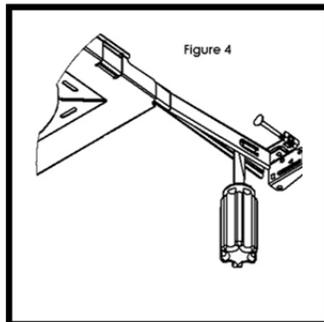

Figure 4
*Note: For tight spacing, bars can be shortened by braking off bar segments (Figure 4 and 5).*